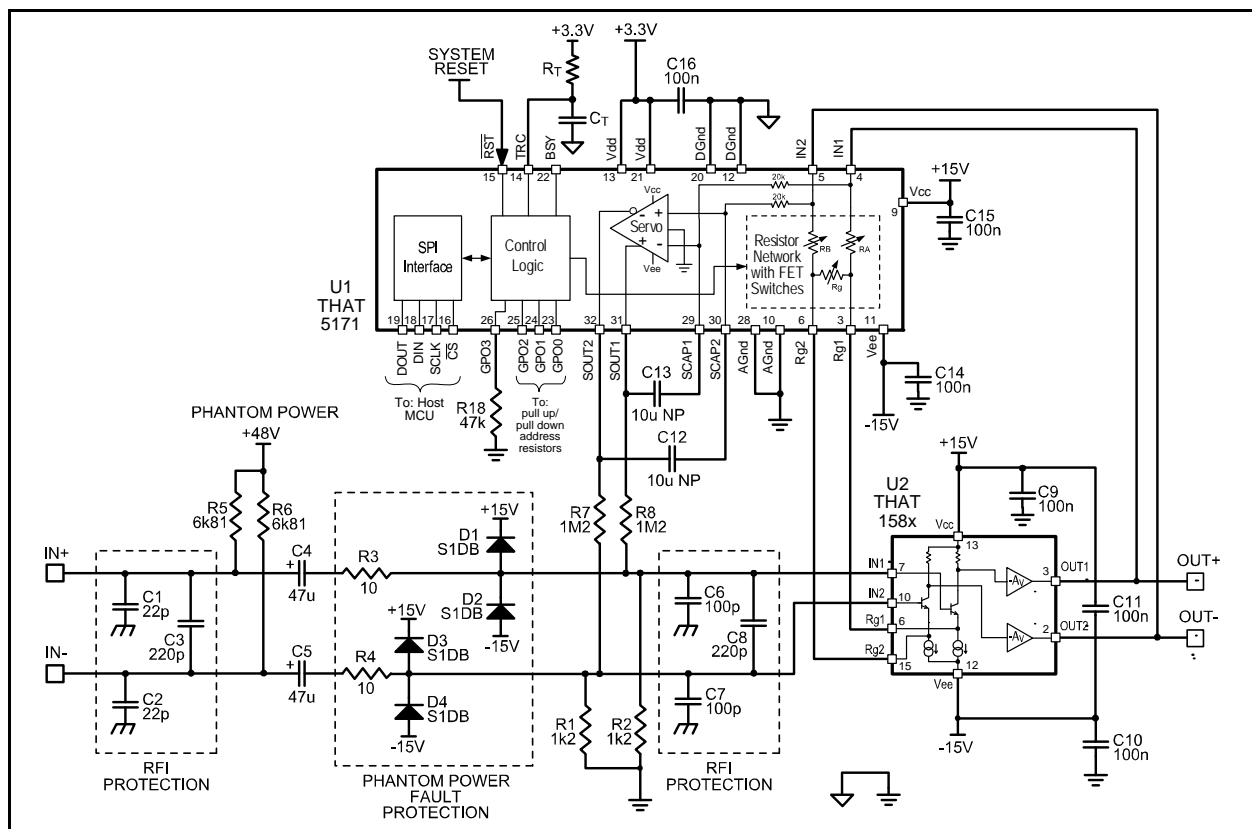
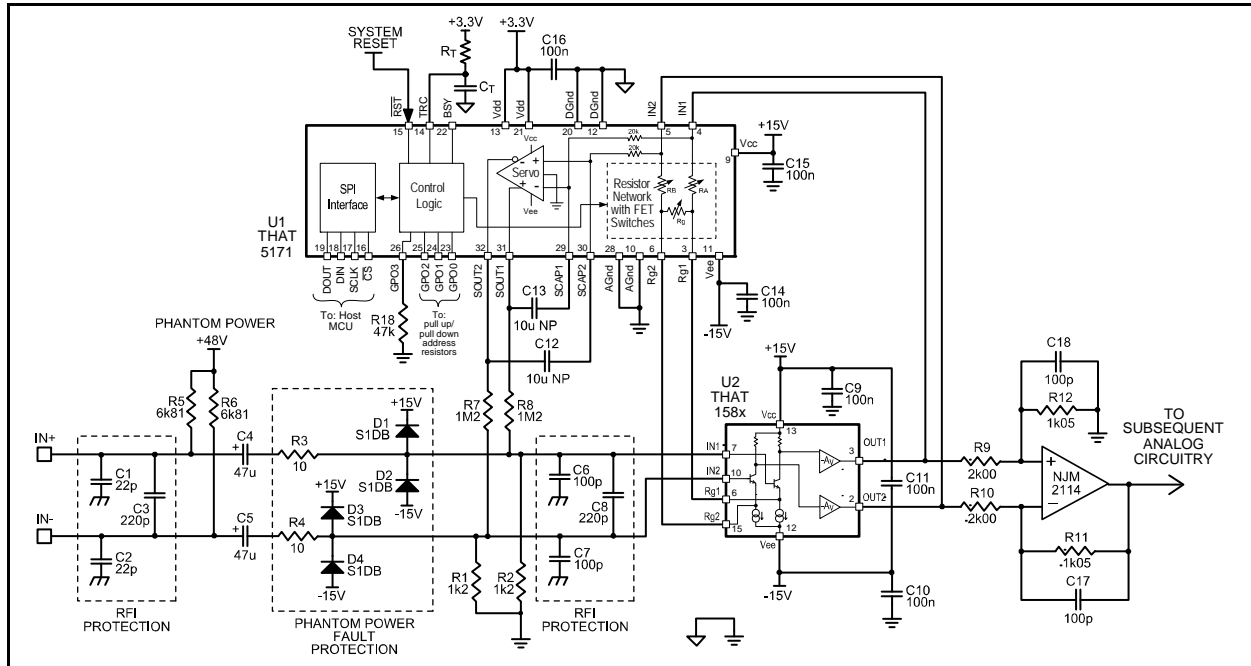

Figure 3. 5171/158x basic application circuit.
Figure 4. 5171/158x typical application with single-ended output.
A built-in zero-crossing detector can be used to restrict gain changes to times when the analog signal is very close to zero. The detector monitors the differential signal present between the IN₁ and IN₂ pins of the 5171. When enabled, it permits gain changes to take place only when the signal is within ±5mV. A timeout (set by external components R_T and C_T in figures 3~6) ensures that a gain change will always occur at the expiration of the timeout, in case the signal has not gotten within the voltage window by that time.
The combination of the input coupling capacitors (C₄ and C₅ in Figures 3~6), the bias resistors for the 1580 (R₁ and R₂ – which form a load for C₄ and C₅), and the servo, form a 2nd order highpass filter whose characteristics change with the gain setting. The Q of this filter is highest at the highest gain setting. (At low gains, the behavior is governed almost entirely by the input coupling network and bias resistors, since the poles split and the one related to the servo moves very low.) Assuming 1.2kΩ for R₁ and R₂, and 1.2MΩ for R₇ and R₈, we can set the highest Q to be about .87 (for approximately Butterworth response) if we choose C₁₂ and C₁₃ to be 1/5 the values of C₄ and C₅.
The circuit of Figure 3 shows the most basic application of the 5171 and 1580 to form a complete low-noise microphone preamplifier.
The circuit of Figure 3 offers differential gain that varies from 5.6 to 68.6dB. There is one large ~8dB step from 5.6dB to 13.6dB. Above 13.6dB, gain may be controlled in 1dB steps to +68.6dB. For single-ended analog outputs, the circuit of Figure 3 can be followed by a differential-to-single-ended converter, as shown in Figure 4. Here, the differential amplifier is configured for -5.6dB gain in order to minimize noise and maximize headroom at the output of the circuit. Including the 5.6dB attenuation in the differential amplifier, the system gain can be set to 0dB, or any gain from +8dB to +63dB in 1dB steps.
With the circuit of Figure 4, the maximum input signal levels remain the same, but the (now single-ended) output levels drop by 5.6dB due to the loss of the differential amplifier. When converting to single-ended signals, take care to select a low-noise opamp, and pay attention to the noise generated by the impedances. The component values shown in Figure 4 will largely preserve the dynamic range of the 1580 and 5171 combination, though they do compromise noise by 1dB at the lowest gain settings.
The circuits of Fig 3 through 6 include RFI protection in two sections. Small capacitors (C_1 and C_2) are used from the positive and negative signal inputs to chassis ground, along with a larger capacitor (C_3) across the two inputs. These components should be located as close as possible to the input signal connector, and are intended to prevent RF from entering the chassis of the device.
- 2) **ZERO-CROSSING Mode:** Updates are made on the next output signal zero-crossing after a rising edge on the /CS pin. An RC time constant connected to the TRC pin (R_T/C_T in Figures 3~6) establishes a time-out period in case a zero-crossing does not occur within a desired time window. The zero-crossing time-out function operates as follows: